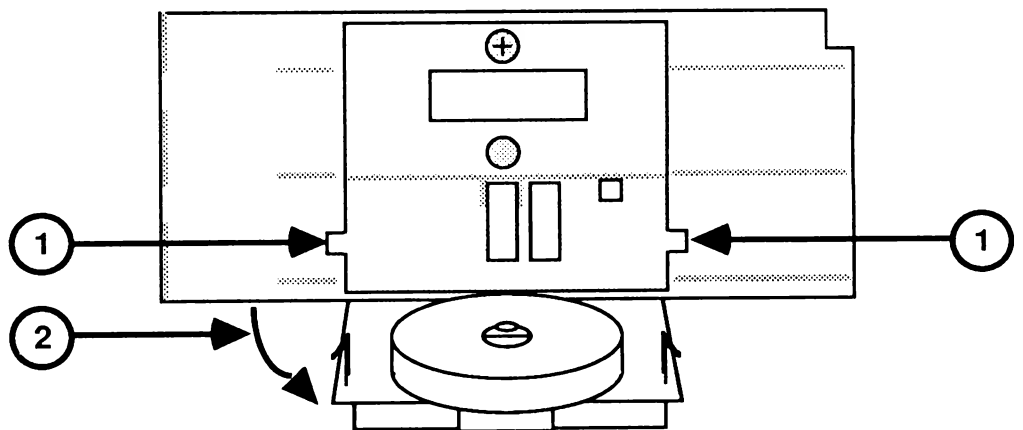

FIGURE 13
6. Slide a flat screwdriver blade through the slots in the switch case and release both the latches that hold the contrast control knob (Figure 13, #1).
7. Swing the wheel section away from the case (Figure 13, #2).